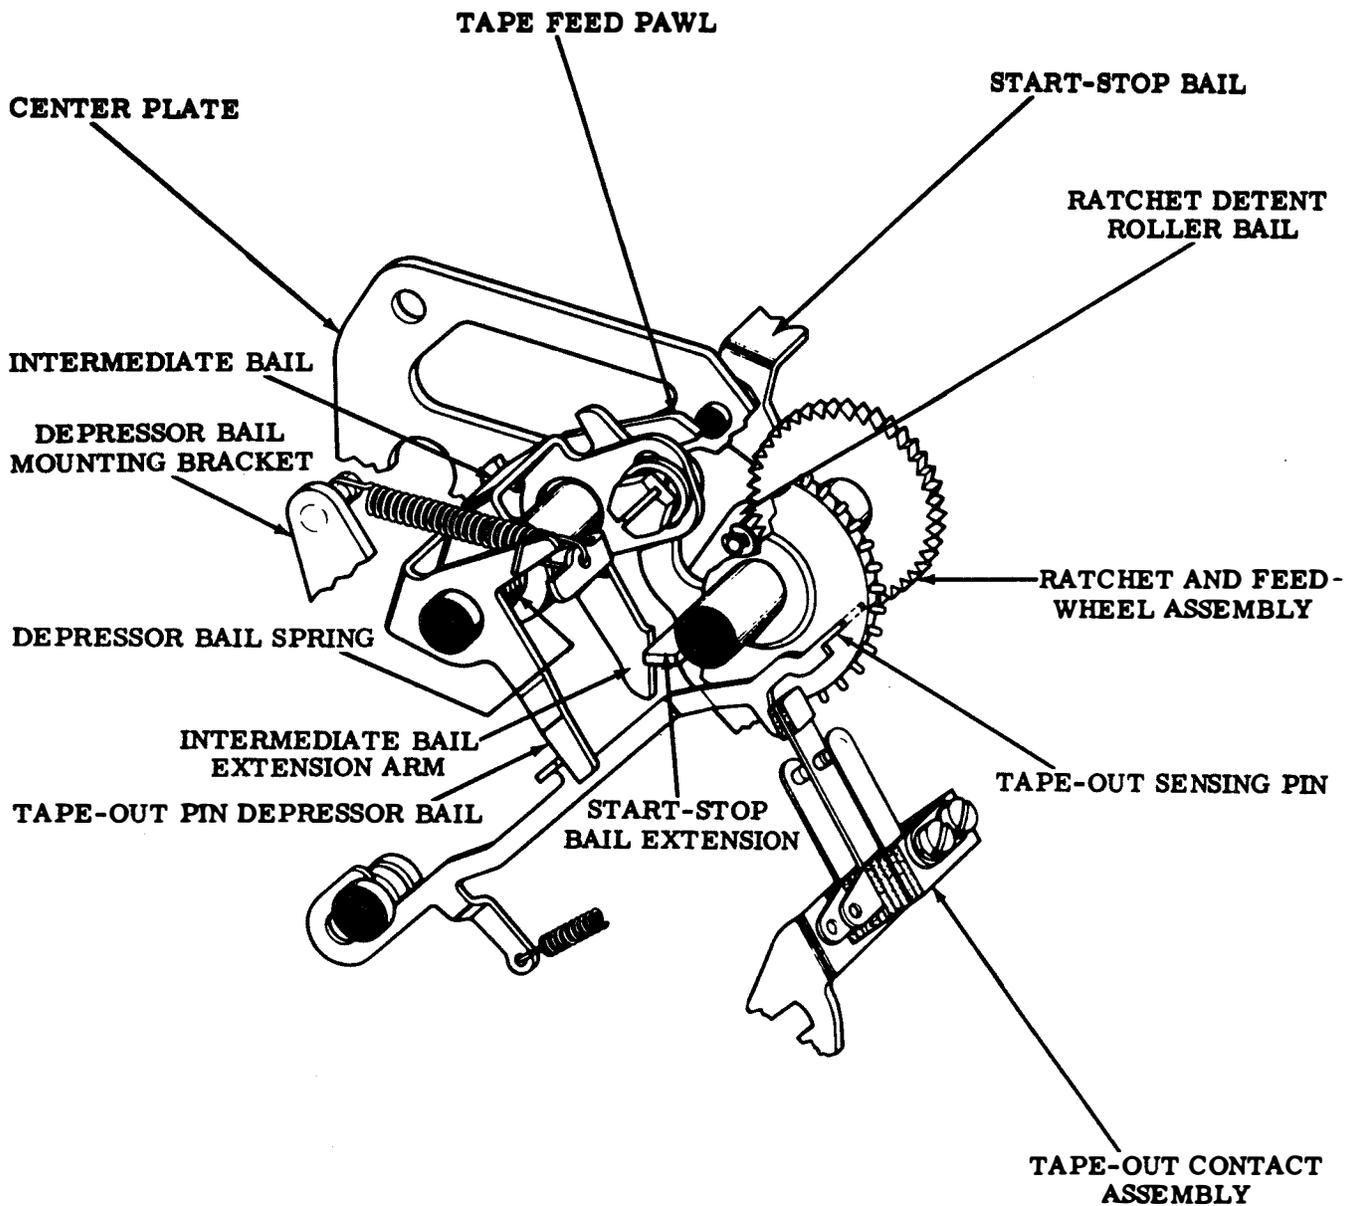

Figure 3-16. Freewheeling and Tape-Out Mechanisms
(10) The tape feed pawl (figure 3-16) advances the tape feed ratchet one tooth against the action of the ratchet detent roller. The tape feed ratchet is part of the tape feedwheel. The tape feedwheel advances the tape one character. The ratchet detent roller bears between two teeth on the ratchet and serves to hold the feedwheel and tape in position during the sensing portion of the operating cycle.
(11) Since the clutch trip bail does not latch, the drive arm moves again to its upper position. In so doing, repetition occurs when the main bail swings up, and the main shaft starts to rotate until the unit runs out of tape.
(2) Tape-Out Sensing Pin. The tape-out sensing pin (figure 3-16) is to the right and slightly forward of the five aligned tape sensing pins. When the tape-out sensing pin is in a depressed position, the circuit is closed, and the unit transmits. Thus, with tape in the unit and the tape lid down, the tape holds the tape-out pin in a depressed position and the circuit is complete. When no tape is present, the tape-out sensing pin thrusts up into a hole provided in the tape lid. The rising of the pin opens the tape-out assembly contacts, which opens the clutch magnet circuit, and transmission stops.